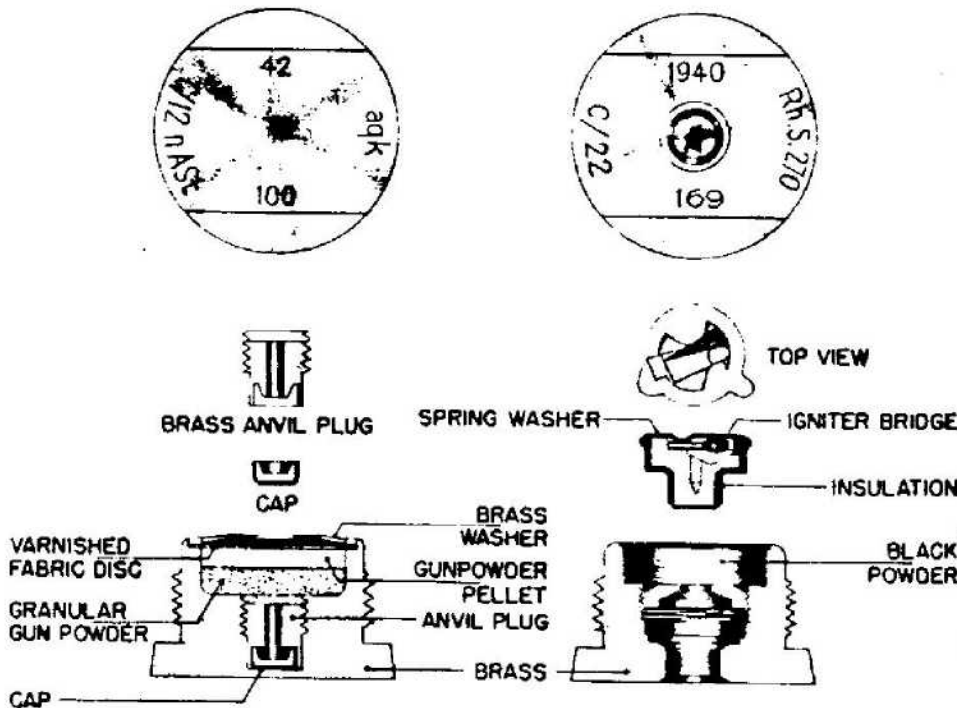

Figure 320—Electric Primers c/12nA and c/22
**EMPLOYMENT.** German Percussion Primer used in the 5-cm Q. R., H. E. Cartridge. (See fig. 320.)
**EMPLOYMENT.** German Electric Primer used in the 7.5-cm Q. F. H. E. Cartridge. (See fig. 320.)